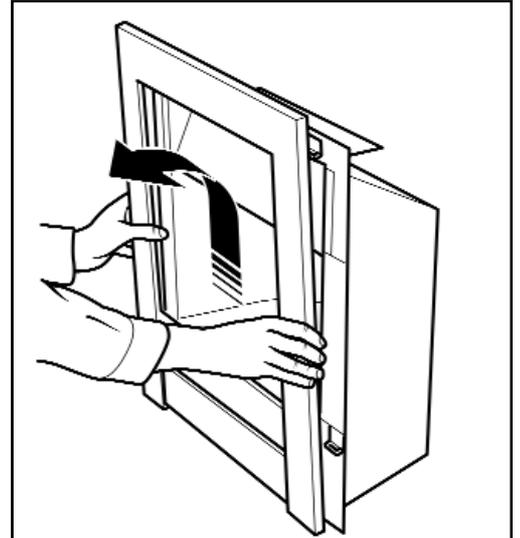

Figure 29. Fascia removal
2. The fascia is held in place by four hooked brackets at the back of the fascia. These slot into four retaining brackets on the hotbox. To remove the fascia, hold the sides of the fascia and lift upward and forward. The fascia should lift clear of the hotbox (See figure 29)